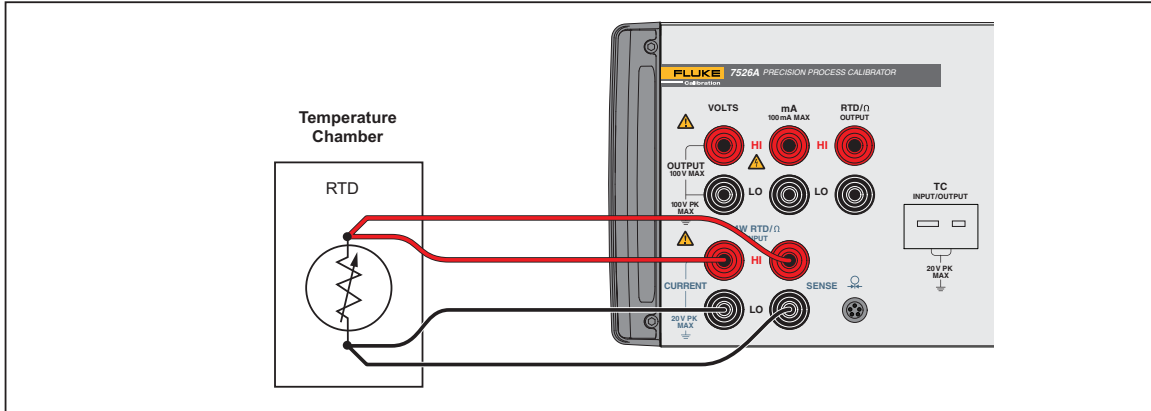

Figure 4-4. RTD Test Application
4. Connect the RTD as shown in Figure 4-4.